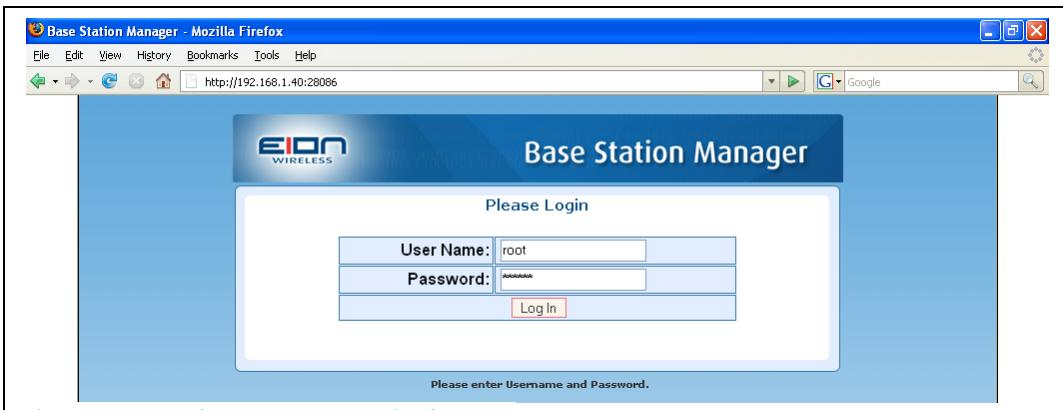
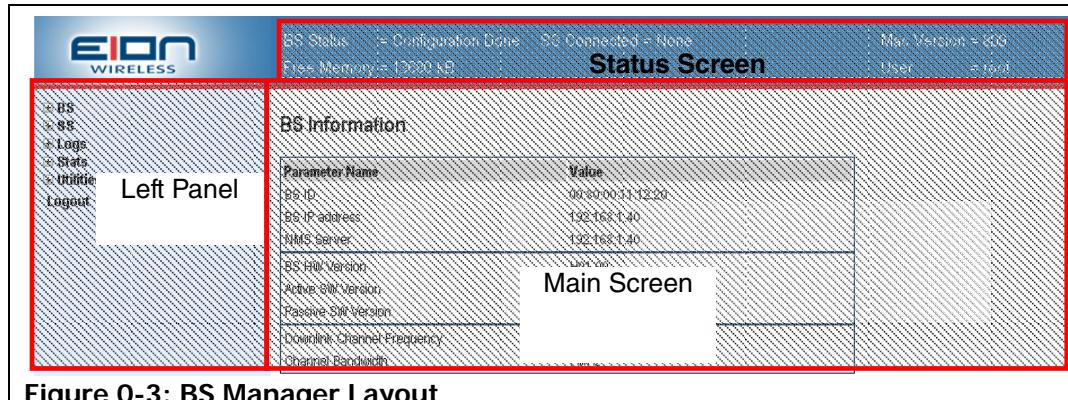

Figure 0-1: BS Manager Login Screen
Figure 0-3: BS Manager Layout
4. The BS Manager Login Screen (Figure 0-1) will appear. Log in with the following:
The NMS GUI is divided into four distinct areas (Figure 0-1 and Figure 0-3).